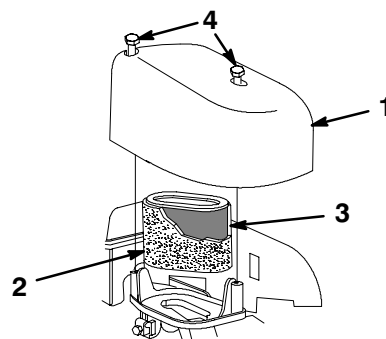

Figure 24
3. Remove the screws that secure the air cleaner cover (Fig. 24).
4. Remove the cover and clean it thoroughly (Fig. 24).
6. Wash the pre-cleaner with a mild detergent and water, then blot it dry (Fig. 24).
7. Remove the paper air filter and discard it (Fig. 24).
8. Install the foam pre-cleaner on the new paper air filter (Fig. 24).
9. Install the new air cleaner filter (Fig. 24).
10. Install the cover and secure it (Fig. 24).